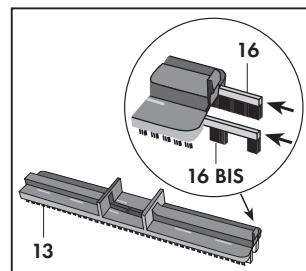

Fig. 15
- Bristled frame (13) with bristled inserts (16 and 16 BIS), for vacuum-cleaning applications (**Fig. 15**)